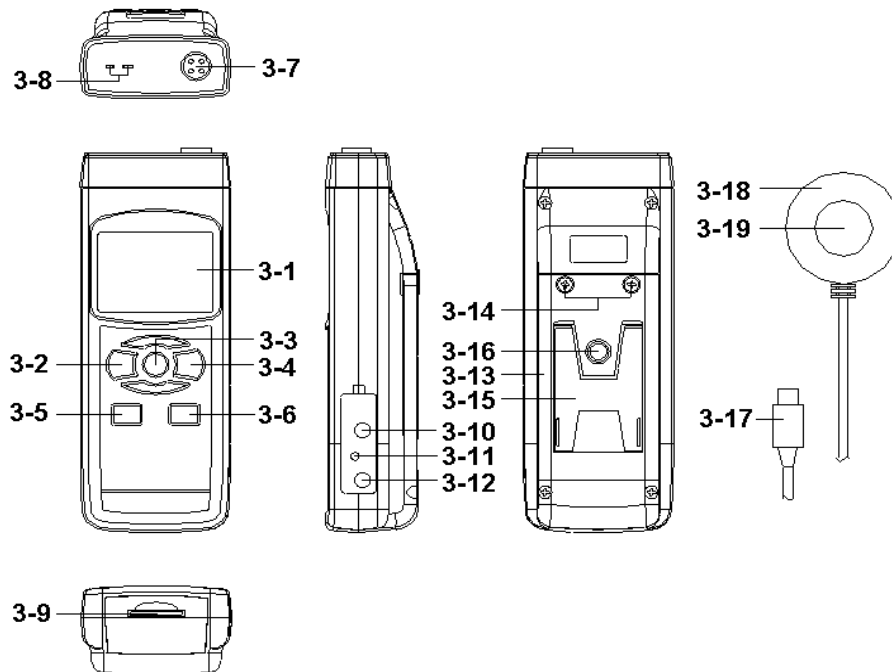

Fig. 1
( 3-2, Fig. 1 ) momentarily.
*\* Pressing the " Power Button " ( 3-2, Fig. 1 )
Pressing the " Function Button " ( 3-3, Fig. 1 )
just release the " Function Button " ( 3-3, Fig. 1 ), the
- b. Install the " UVC Probe Plug " ( 3-17, Fig. 1 ) into the " Probe Input Socket " ( 3-7, Fig. 1 ).
- c. Power on the meter by pressing the " Power Button " ( 3-2, Fig. 1 ). The display will show the " mW/cm2 " unit. Now the meter is ready for making the UVC light measurement.
- d. Use the fingers to hold the " UVC Sensor body " ( 3-18 ), face the " UVC Sensor " ( 3-19, Fig. 1 ) against to the measurement UVC light source directly. The display will show the UVC light measurement value.
***During the UVC measurement, if blank the UVC Sensor ( 3-19, Fig. 1 ) , the Display not show zero value, press the " Zero Button, Logger Button " ( 3-6, Fig. 1 ) > 3 seconds, Display will show zero value.***
- b. Not install the " Probe Plug " ( 3-17, Fig. 1 ) into the " Probe Input Socket " ( 3-7, Fig. 1 ).
- c. Plug the Thermocouple Temp. Probe ( Type K Temp. probe or Type J Temp. probe, optional ) into " Type K/J Probe Input Socket " ( 3-8, Fig. 1 )
During the measurement, press the " Hold Button " ( 3-3, Fig. 1 ) once will hold the measured value & the LCD will display a " HOLD " symbol.
- 1) The data record function records the maximum and minimum readings. Press the " REC Button " ( 3-4, Fig. 1 ) once to start the Data Record function and there will be a " REC. " symbol on the display.
- a) Press the " REC Button " ( 3-4, Fig. 1 ) once, the " REC. MAX. " symbol along with the maximum value will appear on the display.
If intend to delete the maximum value, just press the " Hold Button " ( 3-3, Fig. 1 ) once, then the display will show the " REC. " symbol only & execute the memory function continuously.
- b) Press the " REC Button " ( 3-4, Fig. 1 ) again, the " REC. MIN. " symbol along with the minimum value will appear on the display.
If intend to delete the minimum value, just press the " Hold Button " ( 3-3, Fig. 1 ) once, then the display will show the " REC. " symbol only & execute the memory function continuously.
After power ON, the " LCD Backlight " will light automatically. During the measurement, press the " Backlight Button " ( 3-2, Fig. 1 ) once will turn OFF the " LCD Backlight ".
Prepare a " SD memory card " ( 1 G to 16 G, optional ), insert the SD card into the " SD card socket " ( 3-9, Fig. 1). The front panel of the SD card should face against the the down case.
Press the " REC Button ( 3-4, Fig. 1 ) once , the LCD will show the text " REC ", then press the " Logger Button " ( 3-6, Fig. 1 ), the " REC " will flashing, at the same time the measuring data along the time information will be saved into the memory circuit.
During execute the Datalogger function , if press the " Logger Button " ( 3-6, Fig. 1 ) once will pause the Datalogger function ( stop to save the measuring data into the memory circuit temporally ). In the same time the text of " REC " will stop flashing.
*If press the " Logger Button " ( 3-6, Fig. 1 ) once again will execute the Datalogger again, the text of " REC " will flashing .*
During pause the Datalogger, press the " REC Button " ( 3-4, Fig. 1) continuously at least two seconds, the " REC " indication will be disappeared and finish the Datalogger.
Press the " REC Button ( 3-4, Fig. 1 ) once , the LCD will show the text " REC ", then press the " Logger Button " ( 3-6, Fig. 1 ) once, the " REC " will flashing once and Beeper will sound once, at the same time the measuring data along the time information will be saved into the memory circuit. The lower Display will show the Position ( Location ) no. and saved into the SD card too.
*During execute the Manual Datalogger, press the " ▼ Button " ( 3-5, Fig. 1 ) the lower no. ( position no. ) will flashing. It can use the " ▲ Button " ( 3-6, Fig. 1 ) or " ▼ Button " ( 3-5, Fig. 1 ) to set the measuring position ( 1 to 99, for example room 1 to room 99 ) to identify the measurement location , the lower Display will show P x (  $x = 1$  to 99 ). After the position no. is selected, t press the " Enter Button " ( 3-4, Fig. 1 ) to confirm.*
Press the " REC Button " ( 3-4, Fig. 1 ) continuously at least two seconds, the " REC " indication will be disappeared and finish the Datalogger.